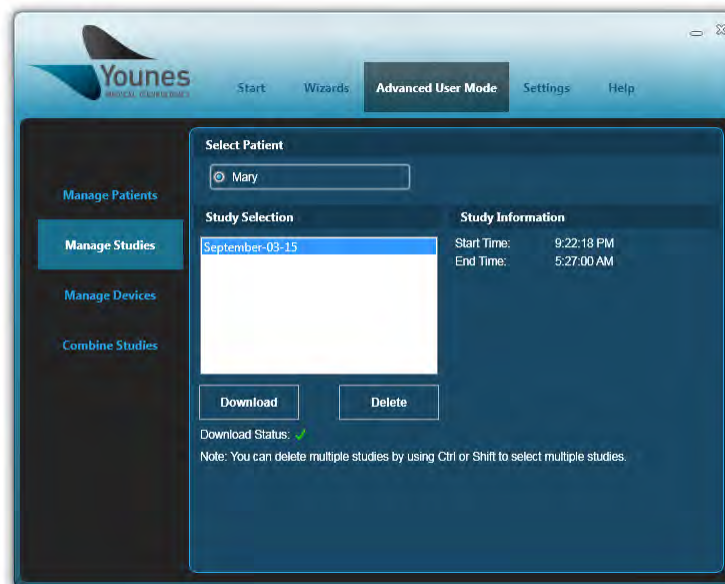

Figure 90 – Windows PC Prodigy Application Successful Download Screen (Manage Studies)
- When the study has been successfully downloaded the screen will appear as shown in Figure 90.